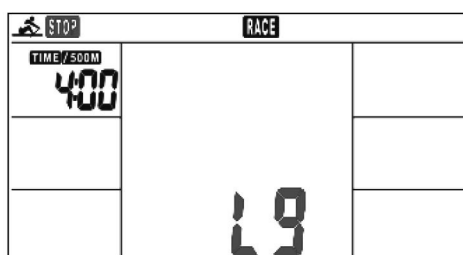

Fig. 8
3. Confirm the selection (L1 - L15) with the ENTER key (Fig. 8).